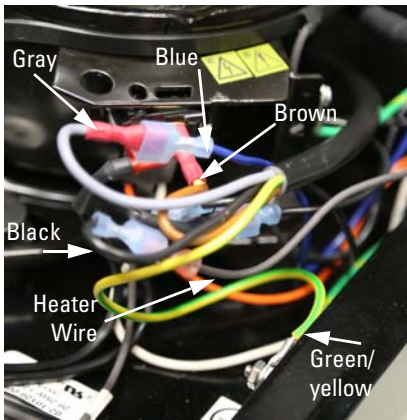

Figure 7: Electrical connections on 115V compressor
9. Disconnect the four (4) compressor wires from the power supply cable (Figure 7).